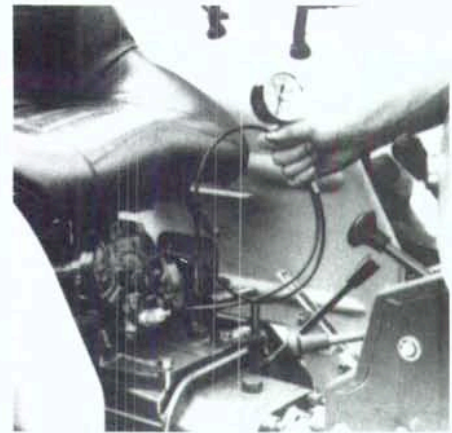
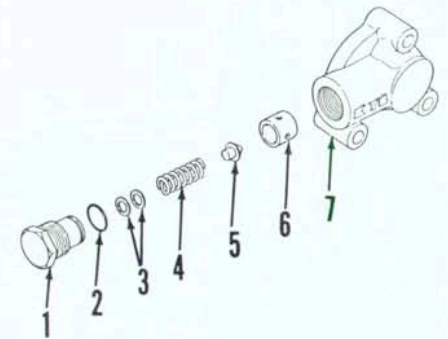
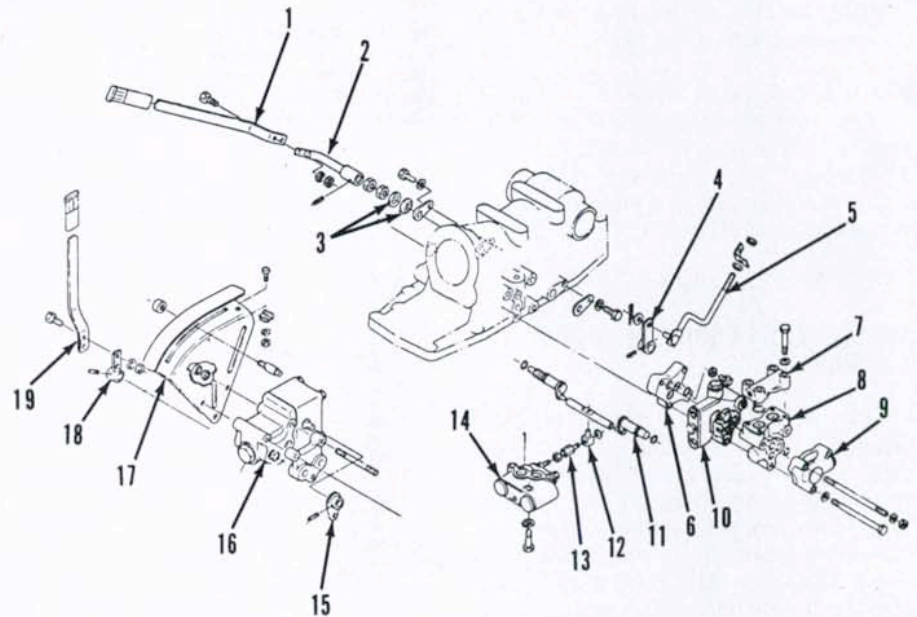

Fig. 154—Connect pressure gage into pressure test port in hydraulic cylinder cover to check and adjust relief valve pressure setting.
Fig. 155—Exploded view of hydraulic system relief valve assembly. Pressure setting is adjusted with shims (3).
Fig. 164—View of hydraulic valves and operating linkage. Flow priority valve (10) is not used on all models.
Hydraulic system relief pressure should be 13240-14690 kPa (1920-2130 psi) on all models. To check relief pressure, remove plug from test port in hydraulic cylinder cover and install a pressure gage as shown in Fig. 154. Disconnect linkage feedback rod (1—Fig. 156) and remove position control lever upper stop. With hydraulic fluid temperature at approximately 40°C (100°F) and engine operating at high idle speed, move draft control lever (if equipped) and position control lever to highest positions and note pressure gage reading when relief valve is actuated. If pressure is not within specified limits, remove plug (1—Fig. 155) from relief valve assembly and add or remove shims (3) to obtain desired pressure relief setting. Reconnect and adjust linkage feedback rod as outlined in following paragraph.
**121. RELIEF VALVE.** Hydraulic system relief valve (9—Fig. 164) is mounted on left side of rockshaft housing. Pressure relief setting is adjusted by adding or removing shims (3—Fig. 155). Refer to paragraph 117 for pressure test procedure. When reinstalling valve assembly, tighten through-bolt to a torque of 78-90 N·m (58-66 ft.-lbs.).
**122. FLOW PRIORITY VALVE.** A flow divider valve (10—Fig. 164) is used on Models L235 and L275 equipped with power steering and all Models L305 and L355. Flow divider valve is mounted on left side of rockshaft housing. To disassemble valve, remove plugs and push valve spool (8—Fig. 165) and spring out of valve body. If spool or valve
124. **R&R AND OVERHAUL.** Position control valve (14—Fig. 164) is mounted on bottom of rockshaft housing. To remove valve, first remove rockshaft housing as outlined in paragraph 127. Remove valve mounting cap screws and lift off valve housing. Do not disturb valve spool adjustment unless necessary.